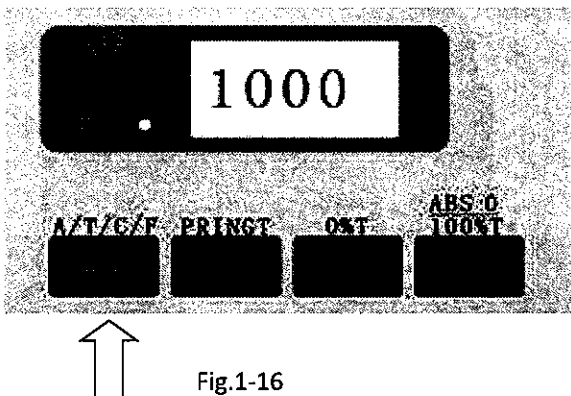

Fig.1-16
- c. Press the **MODE** key, and the current F value shows 1500 (Fig.1-16). Then C mode automatically appears. Suppose the A value measures 0.234, then the C value reads 0.351.